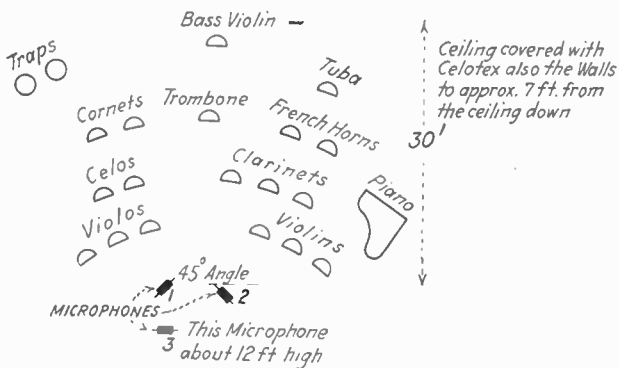

FIG. 87.—Instrument placement before microphone, large orchestra.
*Blasting* is the overloading of the amplifier grids due to excessive microphone pressure. This condition is usually prevalent with powerful soprano vibrations. Blasting is considerably minimized if the microphones are properly placed as in Fig. 87 and the volume decreased.
Figure 87 illustrates a very efficient arrangement of a large orchestra in a studio.